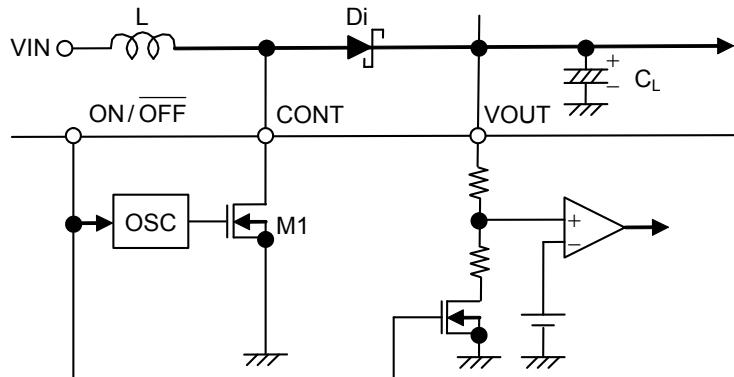

Figure 18 Step-Up Switching Regulator Circuit for Basic Equation
The following are the basic equations [(1) through (7)] of the step-up switching regulator. (Refer to **Figure 18**.)